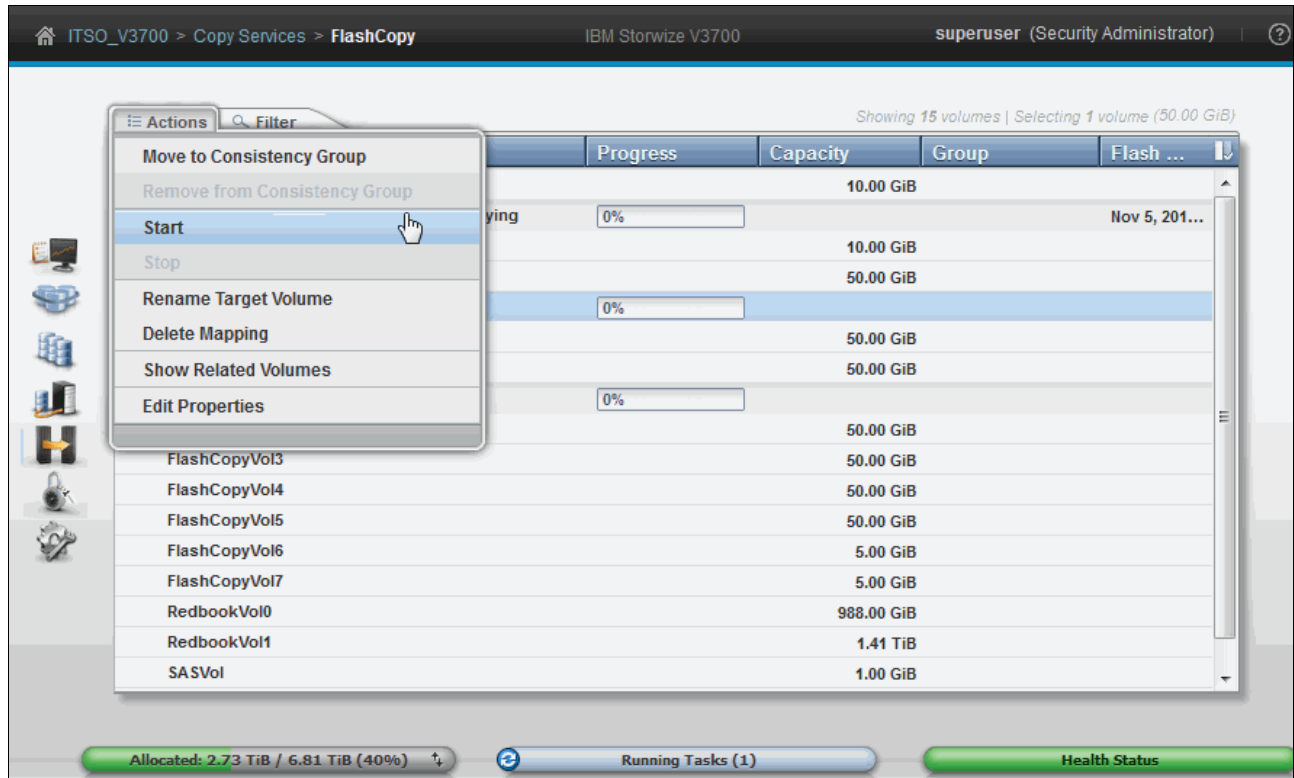

Figure 10-30 Start FlashCopy mapping
2. Select the **Start** option from the **Actions** menu (as shown in Figure 10-30), or right-click and select **Start**. The status of the FlashCopy mapping changes from Idle to Copying.